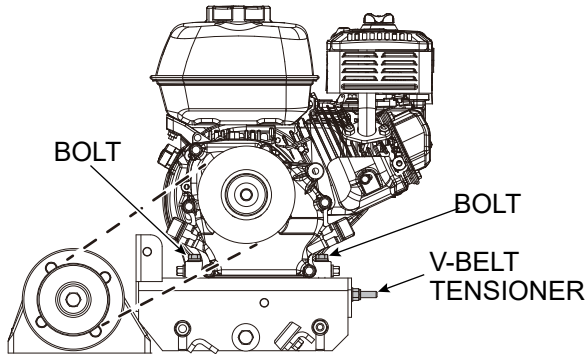

Figure 8. Adjusting V-Belt Tension
3. If the V-belt tension is not proper, adjust the V-belt tension. Loosen the four bolts securing the engine and turn the nut for the V-belt tensioner until the V-belt tension is correct. Retighten the bolts and recheck the tension and alignment (Figure 8).